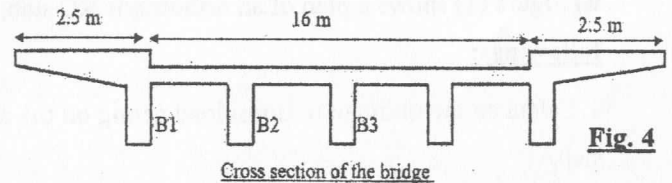

Fig. 4
a) For the given RC girder type road-way bridge with a span of 25 m as shown in Fig. 4. The total width of the bridge is 21 m, and the sidewalk width is 2.5 m. The main girders are used at 4.0 m centerline-to-centerline spacing. While the cross girders are used at 5.0 m spacing. It is required to carry out the following;
Figure 4 shows a bar element subjected to a concentrated load with value (5 ton) at point (B). The Reactions at points (A) and (D) are shown in the Figure.